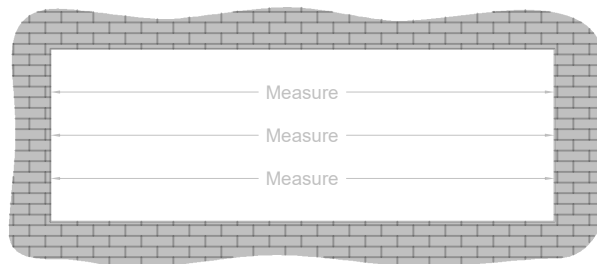

Fig. 25.2
- B. Measure the width of the opening (Rough Opening) at the top, middle and bottom. Select the smallest of these dimensions and subtract the left and right caulk joint width per approved shop drawing (1/2"(12.7mm) minimum caulk joint at jams). **SEE Fig. 25.2.**